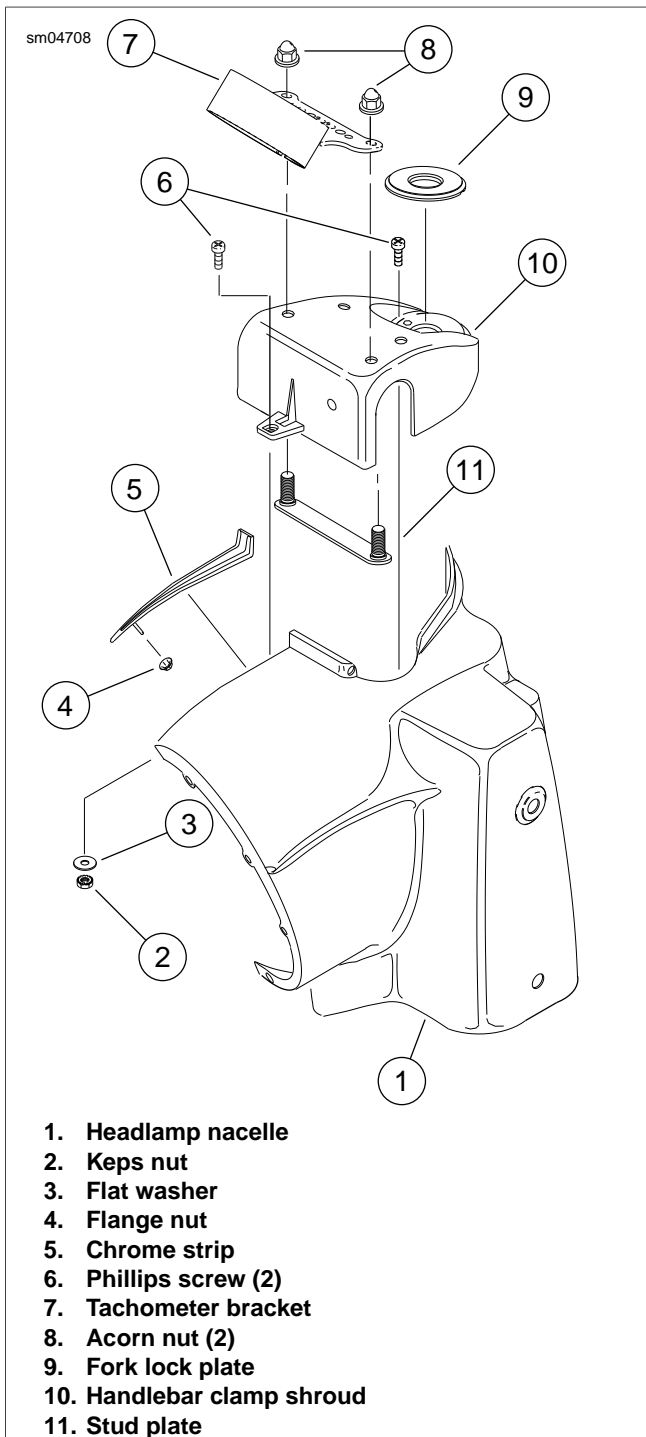

Figure 2-17. Headlamp Nacelle Assembly
- a. Start flat washer and Keps nut onto Phillips screw installed in tab at front of handlebar clamp shroud. Tighten Phillips screw to 10-20 **in-lbs** (1.1-2.3 Nm). See Figure 2-17.